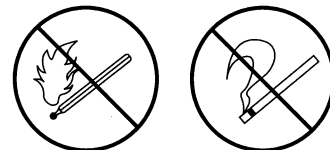

Figure1-31
- When checking the dark area, don't use fire to lighten the area. (Figure 1-31)